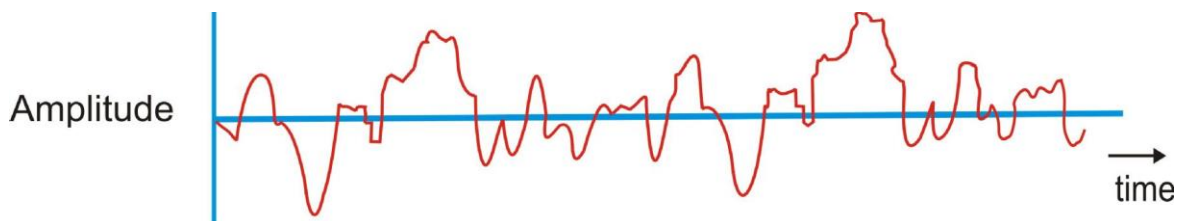
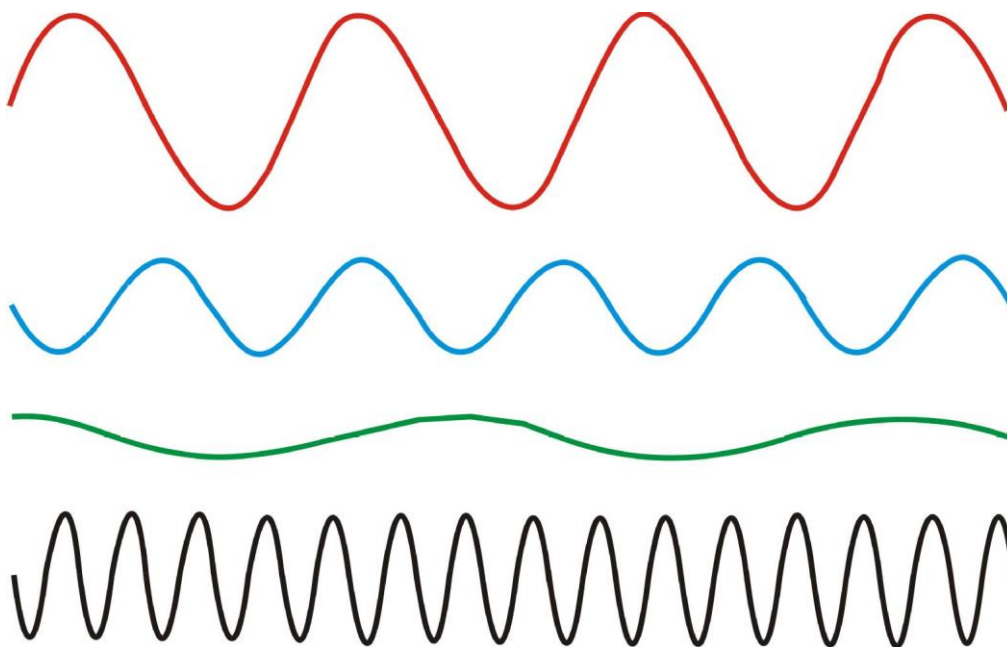

Figure 1
Figure 2
When we speak, we generate a sound that is very complex and changes continuously so at a particular instant in time the waveform may appear as shown in Figure 1 below.
*The first* is to show the original waveform as we did in Figure 1. *The second* method is to make a list of all the separate sinusoidal waveforms that were contained within the complex waveform (these are called 'components', or 'frequency components'). This can be seen in Figure 2.
Only four of the components of the audio signal in Figure 1 are shown in Figure 2. The *actual number of components* depends on the shape of the signal being considered and *could be a hundred or more* if the waveform was very complex.